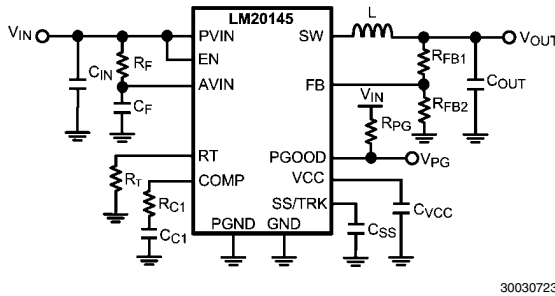

FIGURE 2. Typical Application Circuit
The LM20145 switching regulator features all of the functions necessary to implement an efficient low voltage buck regulator using a minimum number of external components. This easy to use regulator features two integrated switches and is capable of supplying up to 5A of continuous output current. The regulator utilizes peak current mode control with nonlinear slope compensation to optimize stability and transient response over the entire output voltage range. Peak current mode control also provides inherent line feed-forward, cycle-by-cycle current limiting and easy loop compensation. The switching frequency can be varied from 250 kHz to 750 kHz. The device can operate at high switching frequency allowing use of a small inductor while still achieving high efficiency. The precision internal voltage reference allows the output to be set as low as 0.8V. Fault protection features include: current limiting, thermal shutdown, over voltage protection, and shutdown capability. The device is available in the eTSSOP-16 package featuring an exposed pad to aid thermal dissipation. The LM20145 can be used in numerous applications to efficiently step-down from a 5V or 3.3V bus. The typical application circuit for the LM20145 is shown in Figure 2 in the design guide.
This section walks the designer through the steps necessary to select the external components to build a fully functional power supply. As with any DC-DC converter numerous trade-offs are possible to optimize the design for efficiency, size, or performance. These will be taken into account and highlighted throughout this discussion. To facilitate component selection discussions the circuit shown in Figure 2 below may be used as a reference. Unless otherwise indicated all formulas assume units of amps (A) for current, farads (F) for capacitance, henries (H) for inductance and volts (V) for voltages.
To prevent high frequency noise spikes from disturbing the sensitive analog circuitry connected to the AVIN and AGND pins, a high frequency RC filter is required between PVIN and AVIN. These components are shown in Figure 2. as C_F and R_F . The required value for R_F is 1Ω. C_F must be used. Recommended value of C_F is 1.0 μF. The filter capacitor, C_F should be placed as close to the IC as possible with a direct connection from AVIN to AGND. A good quality X5R or X7R ceramic capacitor should be used for C_F .